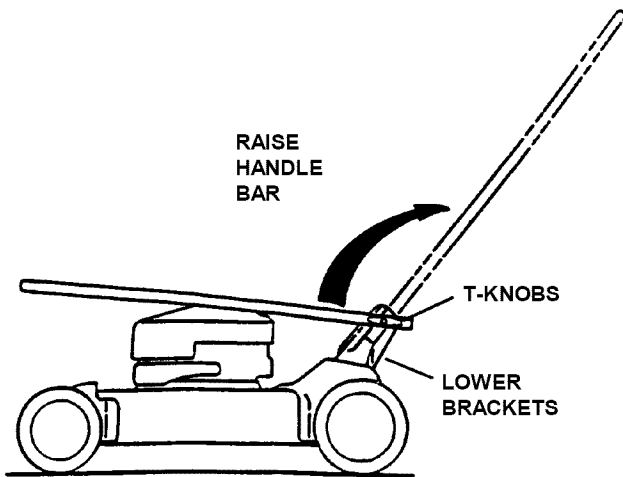

FIGURE 1
STEP 1: Remove machine from shipping carton. Machine is shipped in carton with handles folded. Remove and discard cardboard from between all handles. Raise upper handle until it is in line and seats into lower brackets. Securely tighten handle T-Knobs on both sides. See Figure 1.